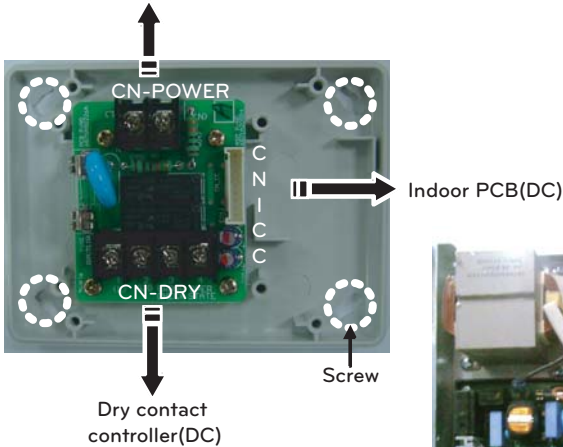

Figure 1
- Open the cover of indoor unit control box and damper controller(Figure 1)
- Set one wired remote controller as master, the others as slave. <Figure 1>
< Figure 1 >